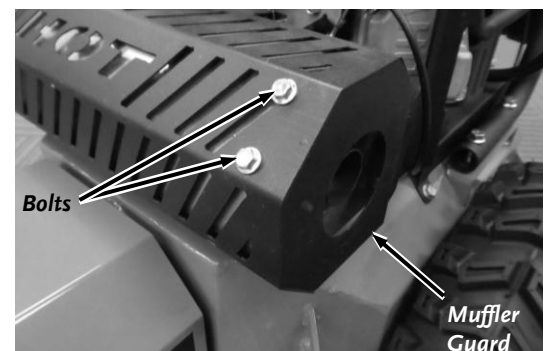

Figure 4
2. Remove the four Bolts (two on each side) securing the Muffler Guard using a 3/8" Wrench (**Figure 4**).